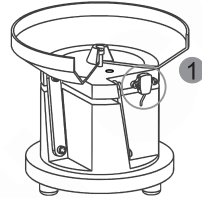

Fig. 1
- Method 1: As shown in Fig. 1